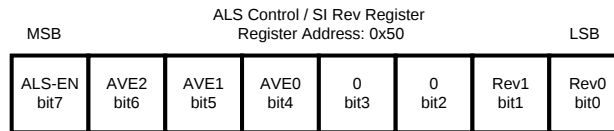
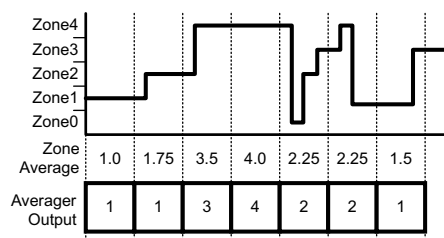

Figure 25. ALS Control / Silicon Revision Register Description
Figure 32. Averager Calculation
The ALS averaging time is the time over which the averager block collects samples from the A/D converter and then averages them to pass to the discriminator block (see Figure 32). Ambient light sensor samples are averaged and then further processed by the discriminator block to provide rejection of noise and transient signals. The averager is configurable with 8 different averaging times to provide varying amounts of noise and transient rejection (see Figure 25). The discriminator block algorithm has a maximum latency of two averaging cycles, therefore the averaging time selection determines the amount of delay that will exist between a steady state change in the ambient light conditions and the associated change of the backlight illumination. For example, the A/D converter samples the ALS inputs at 16 kHz. If the averaging time is set to 800 ms, the averager sends the updated zone information to the discriminator every 800 ms. This zone information contains the average of approximately 12800 samples (800 ms × 16 kHz). Due to the latency of 2 averaging cycles, when there is a steady-state change in the ambient light, the LED current begins to transition to the appropriate target value after approximately 1600 ms have elapsed.
- The averager always rounds down to the lower zone in the case of a non-integer zone average (1.2 rounds to 1 and 1.75 also rounds to 1). Figure 32 shows an example of how the Averager will make the zone decisions for different ambient conditions.
When using the ALS averaging functionality, it is important to remember that the averaging cycle is free running and is not synchronized with changing ambient lighting conditions. Due to the nature of the averager round down, an increase in brightness can take between 2 and 3 averaging cycles to change zones while a decrease in brightness can take between 1 and 2 averaging cycles to change. See Figure 25 for a list of possible averager periods. Figure 35 shows an example of how the perceived brightness change time can vary.